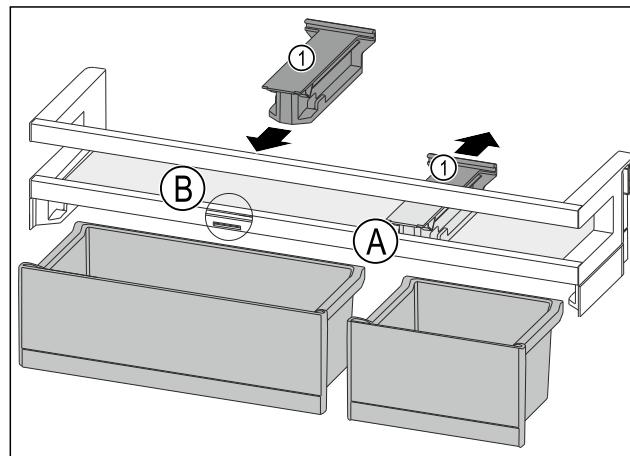

Fig. 88
- Take off the holding part Fig. 88 (1) in position Fig. 88 (A) backwards.
- Insert the holding part Fig. 88 (1) in position Fig. 88 (B).